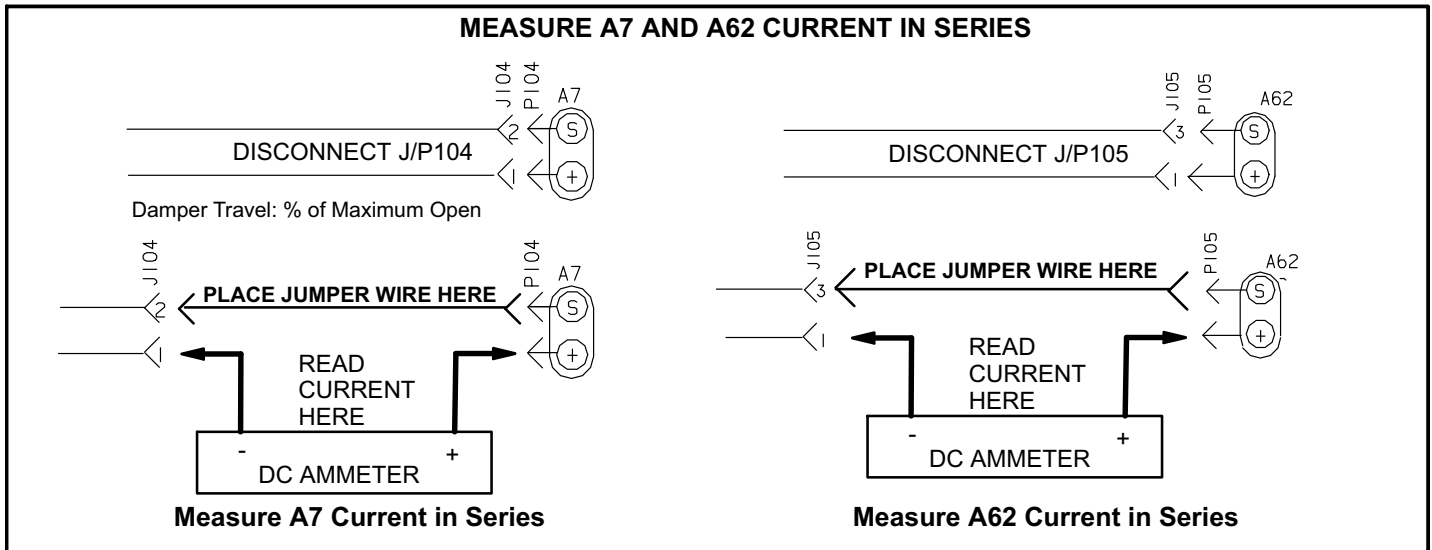

FIGURE 14
- A** Connect a direct current ammeter as shown in figure 14 to measure current output of A7 or A62.